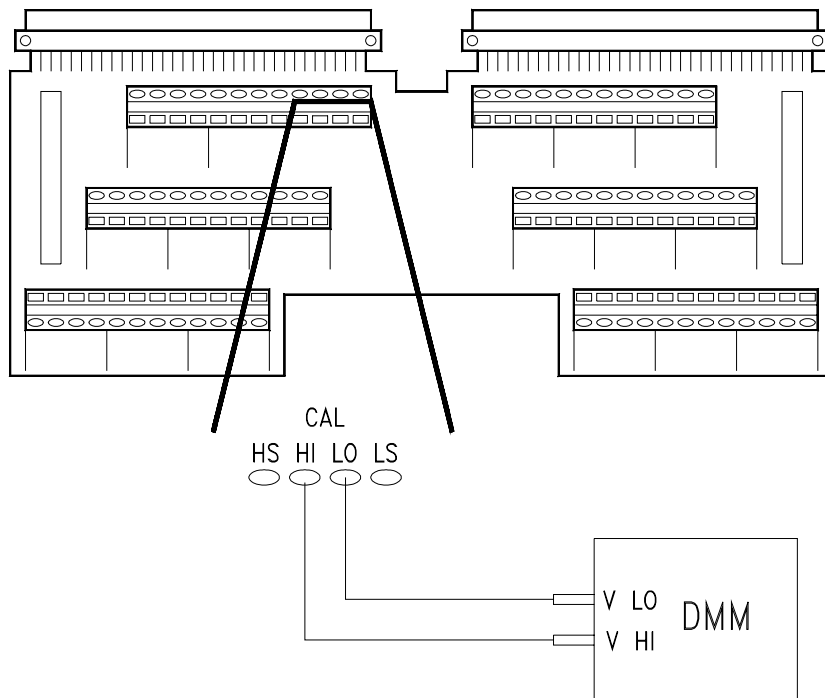

Figure 5-3. Voltage Adjustment Connections (CAL)
1. Make the connections shown in figure 5-3 or 5-4.